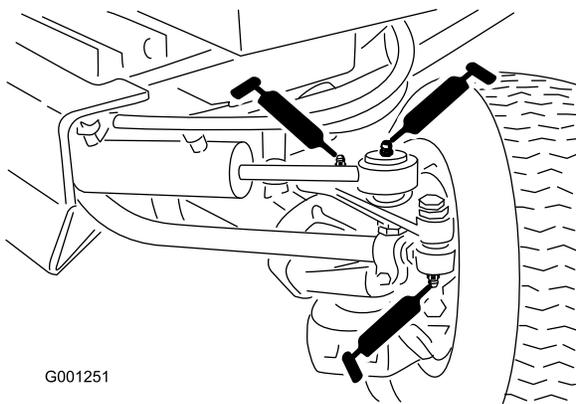

Figure 45
- Tie rod ends (2) (Figure 45)
- Cylinder rod ends (2) (Figure 45)
- Steering pivots (2) (Figure 45)
- Axle pivot pin (Figure 45)